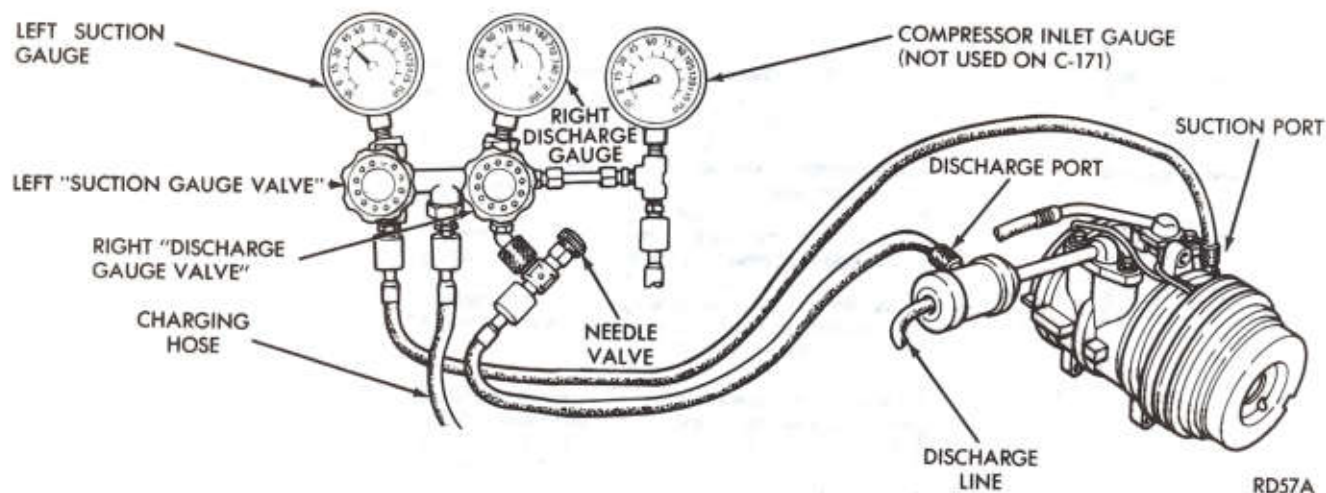

Fig. 5—Typical Manifold Gauge Set Installation
- (1) Connect a tachometer and manifold gauge set (Fig. 5).
- (2) Set A/C controls to Max A/C, temperature lever on full cool, and blower on high.
- (3) Start engine and adjust rpm to 1000 with A/C clutch engaged.
- (4) Engine should be warmed up with doors, windows, and hood closed.
- (5) Insert a thermometer in the left center A/C outlet and operate the engine for 5 minutes. The A/C clutch may cycle depending on ambient conditions.
- (6) After 5 minutes note the discharge air temperature. (If the clutch cycles take the reading before the clutch disengages).
- (7) Open the hood and disconnect the gray vacuum line going to the heater water control valve. Observe the valve arm for movement as the line is disconnected. If it does not move refer to the heater valve controls sections of this group. Plug the vacuum line to prevent leakage.
- (8) Operate the A/C for 2 more minutes and take the discharge air temperature reading again. If the temperature increased by more than 5°F (2°C), check the blend air door cable for correct operation. If the temperature does not increase more than 5°F (2°C), compare the discharge air temperature, suction, and discharge pressures with the values in the performance chart corresponding with the garage ambient temperature. Reconnect the gray vacuum line.
- (9) If the discharge air temperature fails to meet the